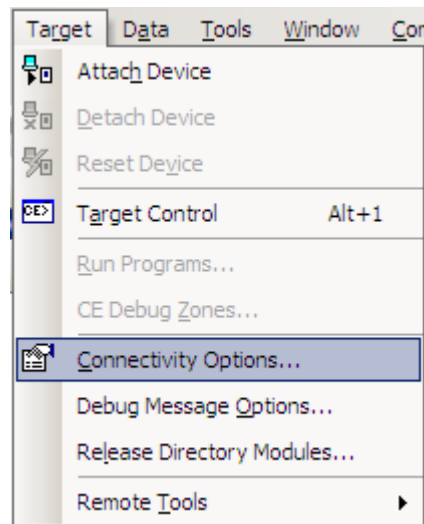

Figure 6-2 Platform Builder Connectivity Options
7. In Platform Builder, select **Target > Connectivity Options** (Figure 6-2).